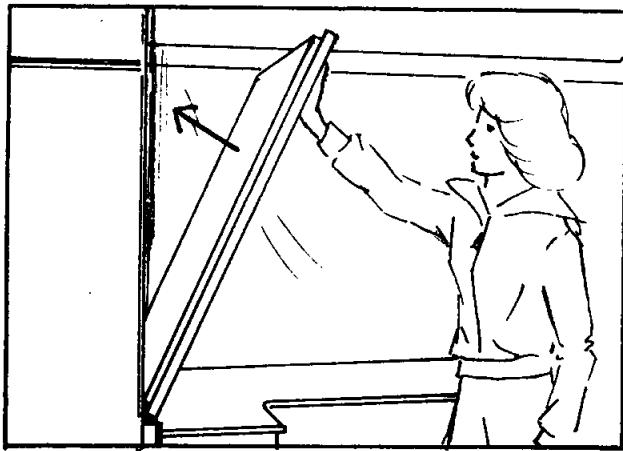

FIGURE 14
22. Lift the right section of the bathroom wall off of the countertop and raise to full vertical height. See Figure 14.